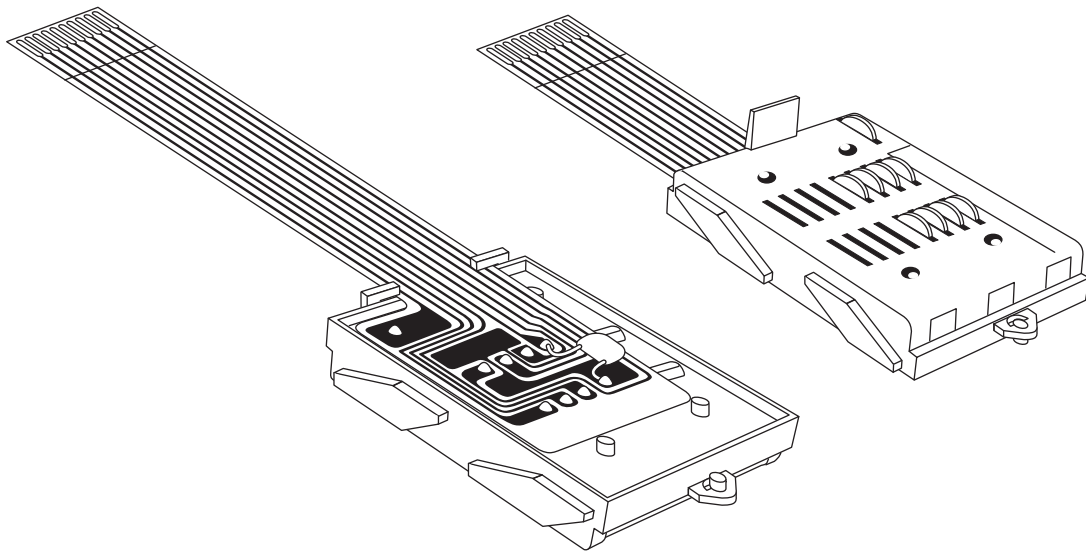

Figure 1. Smartcard Contact Blocks, Cable And Contact Sides, Extended and Regular Cables
- Regular and Extended flex cables provided (shown in Figure 1)